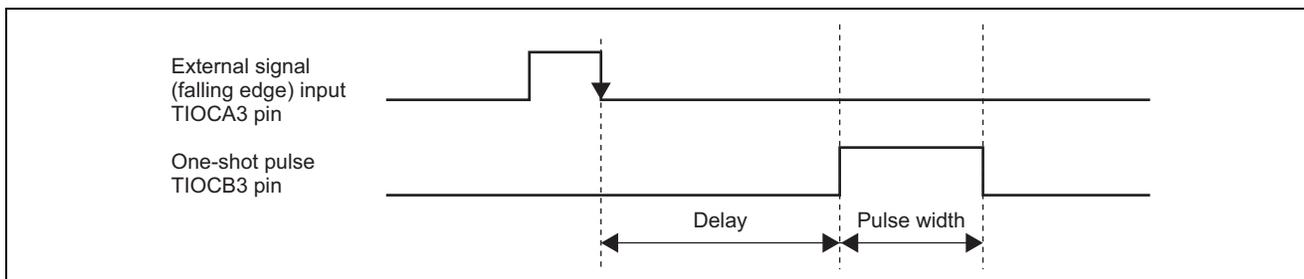

Figure 1 One-Shot Pulse Output
- (1) A one-shot pulse is output in synchronization with the falling edge of an external signal as shown in figure 1.
- (2) The buffer operation of TPU_3, and transfer function of the DMAC are used.
- (3) Any desired value can be set for the delay and pulse width.